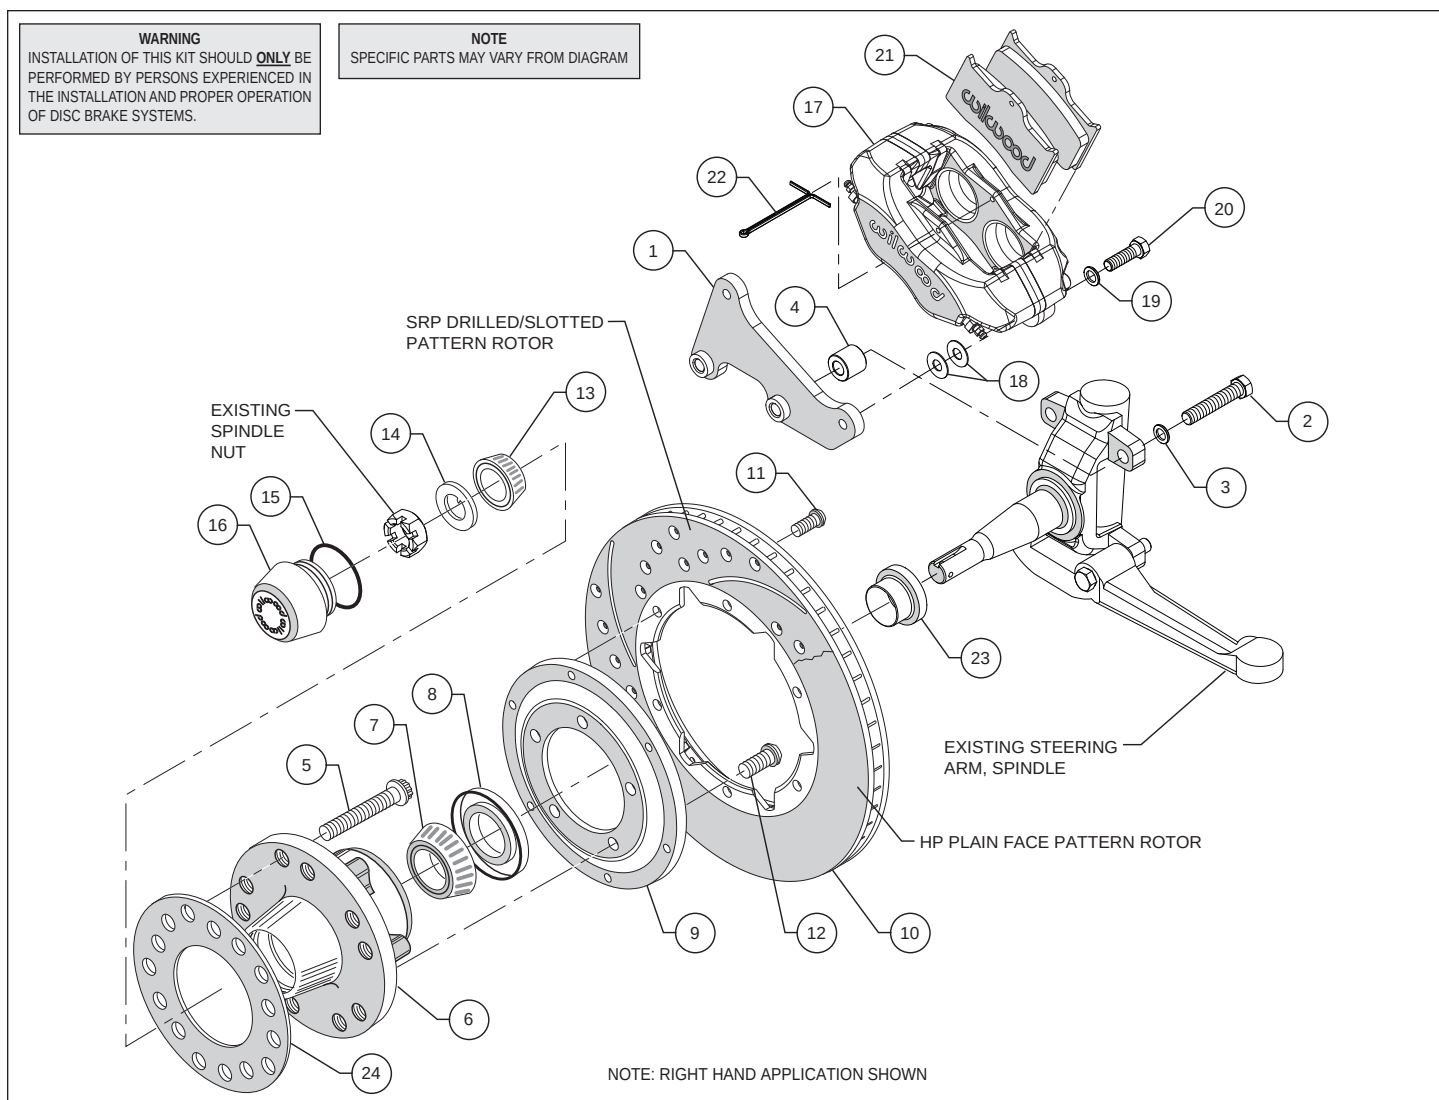
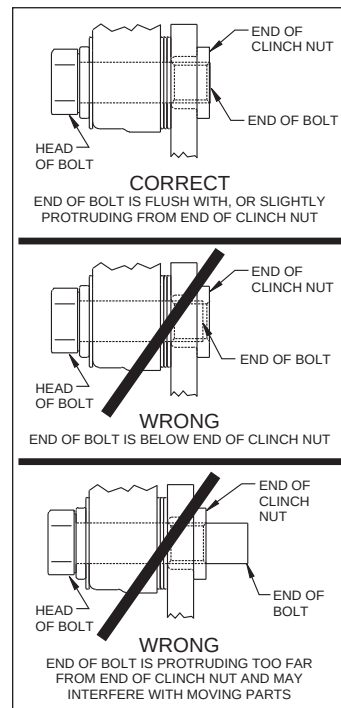

Figure 1. Typical Installation Configuration
Figure 3. Clinch Nut Engagement Diagram
Assembly Instructions (numbers in parenthesis refer to the parts list and Figure 1 on the preceding pages): **CAUTION:** All mounting bolts must fully engage clinch nuts. Be sure to check that all bolts are either flush or protruding through flanged side of clinch nut after shimming, Figure 3.
- Orient the caliper mount bracket (1) as shown in Figure 1, and install using bolts (2) and washers (3). Place a spacer (4) on each bolt between the bracket and caliper mounting bosses, Figure 1. Ensure that the flanged heads of the clinch nuts in the bracket are facing outboard. Temporarily tighten the mounting bolts. **NOTE:** The bracket must fit squarely against the mount bosses on the upright. Inspect for interference from casting irregularities, machining ridges, burrs, etc. Remove bolts one at a time, apply red *Loctite*® 271 to the threads and torque to 70 ft-lb.
- Slide the inner bearing spacer (23) onto the spindle with the larger O.D. facing inward, Figure 1 and Photo 1.
- Install wheel studs (5) into the hub (6), Photo 2. Torque to 77 ft-lb. **NOTE:** There are two five lug patterns in the hub (5 x 4.75 and 5 x 5.00). Ensure the correct hub stud pattern is being used to fit the wheel application.
- Pack the large inner bearing cone (7) with high temperature disc brake bearing grease (available from your local auto parts store) and install into the backside of the hub (6), Photo 3.
- Install the grease seal (8) by pressing into the backside of the hub (6), flush with the end of the hub, Photo 3.
- Orient the rotor (10) and the rotor adapter (9) as shown in Figure 1 and Photo 4. Attach the rotor to the adapter using bolts (11). Using an alternating sequence, apply red *Loctite*® 271 to the threads, and torque to 25 ft-lb.
- Mount the adapter/rotor assembly (9/10) to the hub (6) using bolts (12), as shown in Figure 1 and Photo 5. Using an alternating sequence, apply red *Loctite*® 271 to the threads, and torque to 55 ft-lb.
- Screw dust cap (16) into hub (6), Photo 7. Friction created by the o-ring (15) on the dust cap keeps it from unscrewing. **NOTE:** The O.D. of the existing OEM spindle washer may be larger than the I.D. of the dust cap not allowing it to seat against the hub face. Therefore, use the spindle washer (14) supplied with the kit instead of the OEM washer.
- NOTE:** Please reference the caution statement at the beginning of the assembly instructions. Mount the caliper (17) onto the caliper mounting bracket (1) using bolts (20) and washers (19), as shown in Figure 1. Initially place two .035" thick shims (18) on each bolt between the caliper and the bracket, Photo 8. Temporarily tighten the mounting bolts and view the rotor (10) through the top opening of the caliper. The rotor should be centered in the caliper, Photo 9. If not, adjust by adding or subtracting shims between the bracket and the caliper. Always use the same amount of shims on each of the two mounting bolts. **NOTE:** The end of each bolt must be flush with or slightly protruding from the head of the clinch nut, as shown in Figure 3. If necessary place spare shims between washer (18) and caliper mounting ear to achieve the proper clinch nut engagement. Later, after the calipers are bled, the caliper mounts bolts will be secured using red *Loctite*® 271.